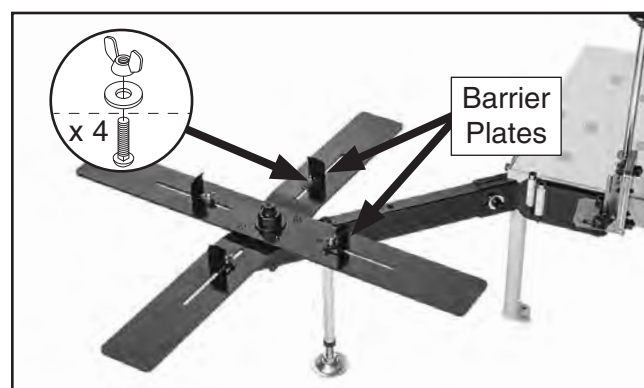

Figure 10. Barrier plates attached to coil support.
5. Attach (4) barrier plates to coil supports using (4) M6-1 x 12 carriage bolts, (4) 6mm fender washers, and (4) M6-1 wing nuts, as shown in **Figure 10**.